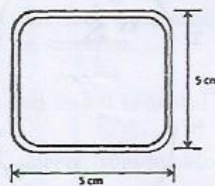

Fig. 14(b)
- (ii) Use Gerard's method to find the crippling stress for the formed square tube shown in Fig. 14(b) made of Aluminum alloy whose thickness is 0.125 cm. Take  $F_{cy} = 280 \text{ MPa}$ ;  $E = 70 \text{ GPa}$ . (6)